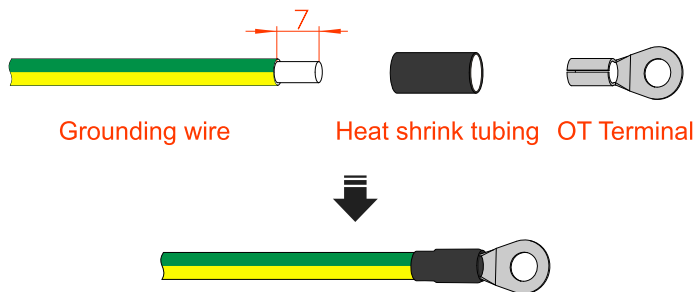

Figure3-14 Stripping diagram of external grounding wire (unit: mm)
- Step 1 Strip the insulation layer of grounding wire for about 7mm, insert the wire into OT terminal and crimp them by crimping tool, the as shown in Figure3-14.